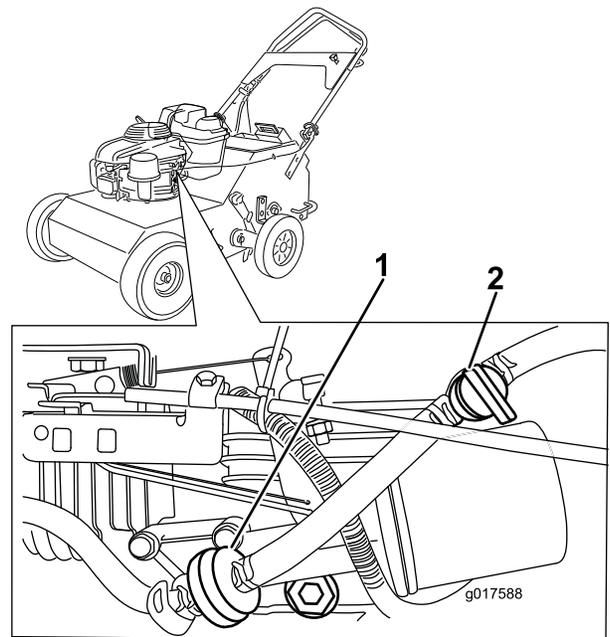

Figure 9
2. Open the fuel valve by turn it in-line with the fuel hose (Figure 9).